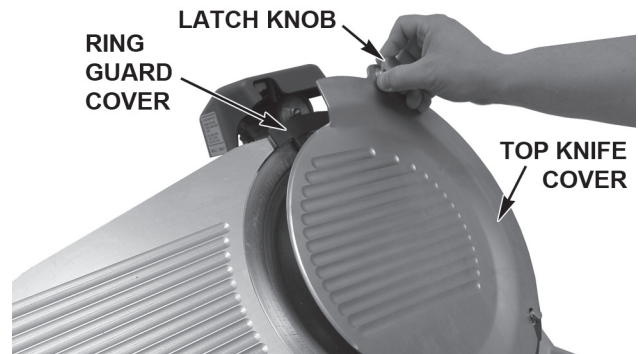

Fig. 21
- Position the Top Knife Cover (Fig. 21) on the lower two Guide Pins and lower the Latch Knob until the magnet secures the Top Knife Cover in place.